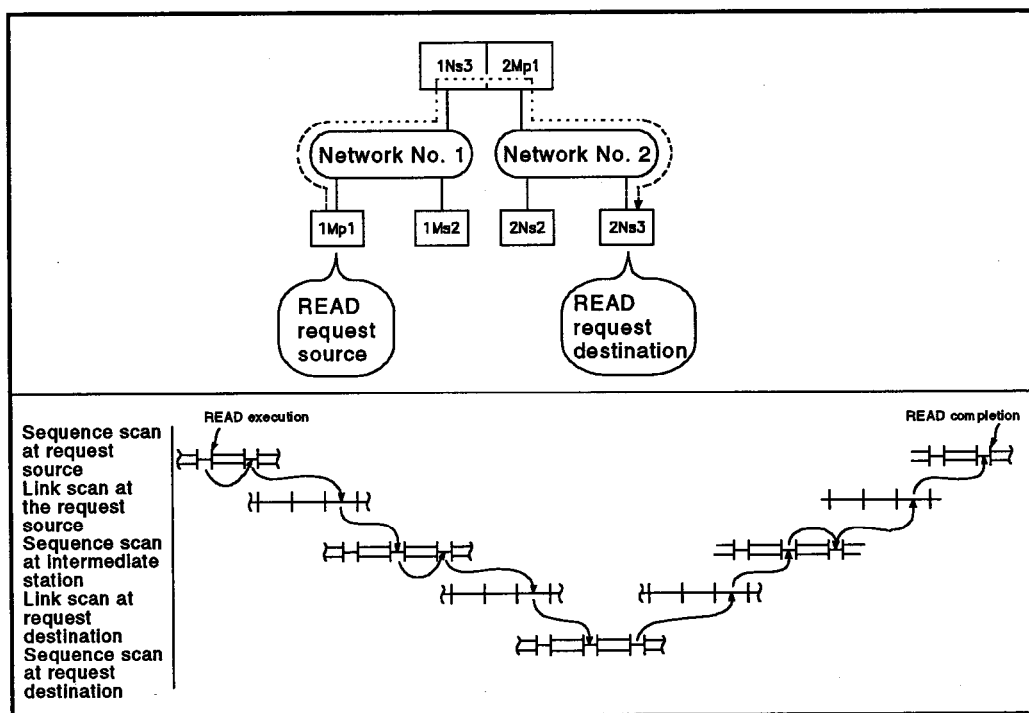

Fig. 8.2 Transmission Delay Due to Routing
This is the transmission delay time taken for data to be transmitted from the request source (station executing the ZNRD/ZNWR instruction) to the intermediate station that routes the data; in the example in Fig. 8.2, it is the time taken for data transmission from station 1Mp1 to station 1Ns3. Calculate this processing time by using the formula for calculating the transmission delay time in a two-tier system given in section 8.1.2 (1) (b).
This is the transmission delay time taken for data to be transmitted from the intermediate station to request destination (the station accessed by the ZNRD/ZNWR instruction); in the example in Fig. 8.2, it is the time taken for data transmission from station 2Mp1 to station 2Ns3. Calculate this processing time by using the formula for calculating the transmission delay time in a two-tier system given in section 8.1.2 (1) (b).